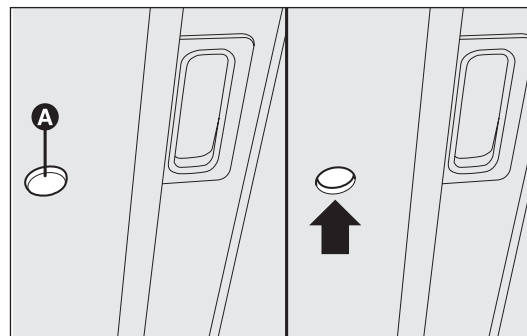

fig. 66
- insert the key into hole A-fig. 66 and turn it: